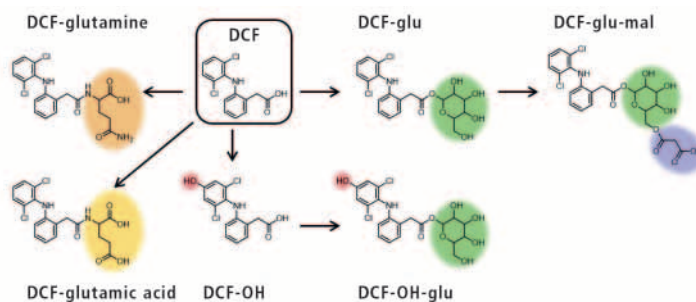

Figure 2: Schematic representation of the metabolization of DCF with structural proposals of the metabolites
Careful evaluation of the mass spectra obtained and comparison with untreated plants led to identification of 16 metabolites with proposed structures. These were hydroxylation products (OH) or conjugates with glucose (glu), malonic acid (mal), glutamine and glutamic acid (see figure 2). For these experiments, the plants were treated with high concentrations of drugs (> 1 mg/L) to facilitate the identification of the metabolites [4].